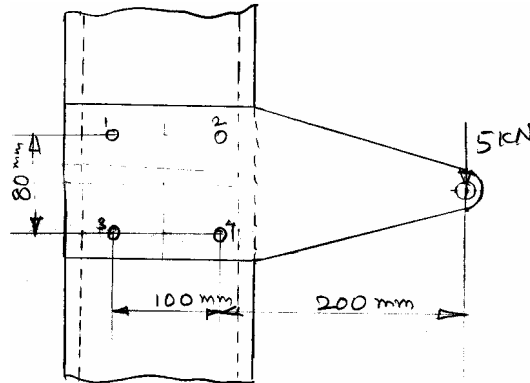

Fig.Q6(a)
- 6 a. A steel plate subjected to a force of 5 kN and fixed to a vertical channel by means of four identical bolts is shown in Fig.Q6(a). The bolts are made of plain carbon steel 45C8 ($\sigma_y = 380$ MPa) and the factor of safety is 2. Determine the normal diameter of the bolt.